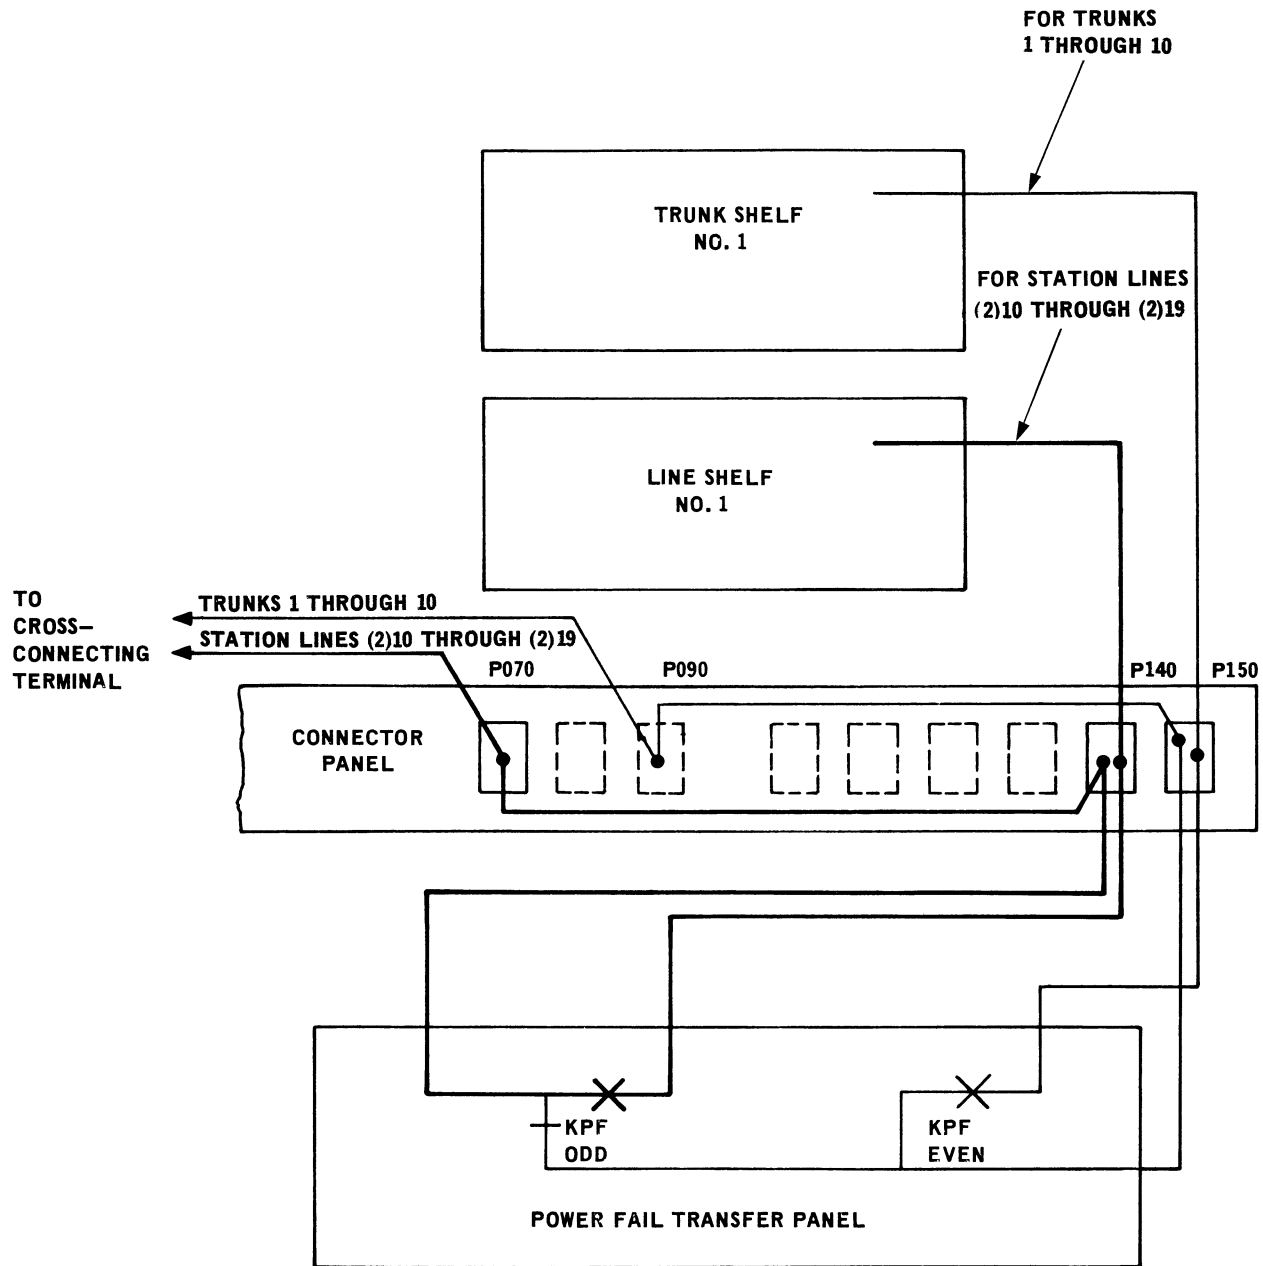
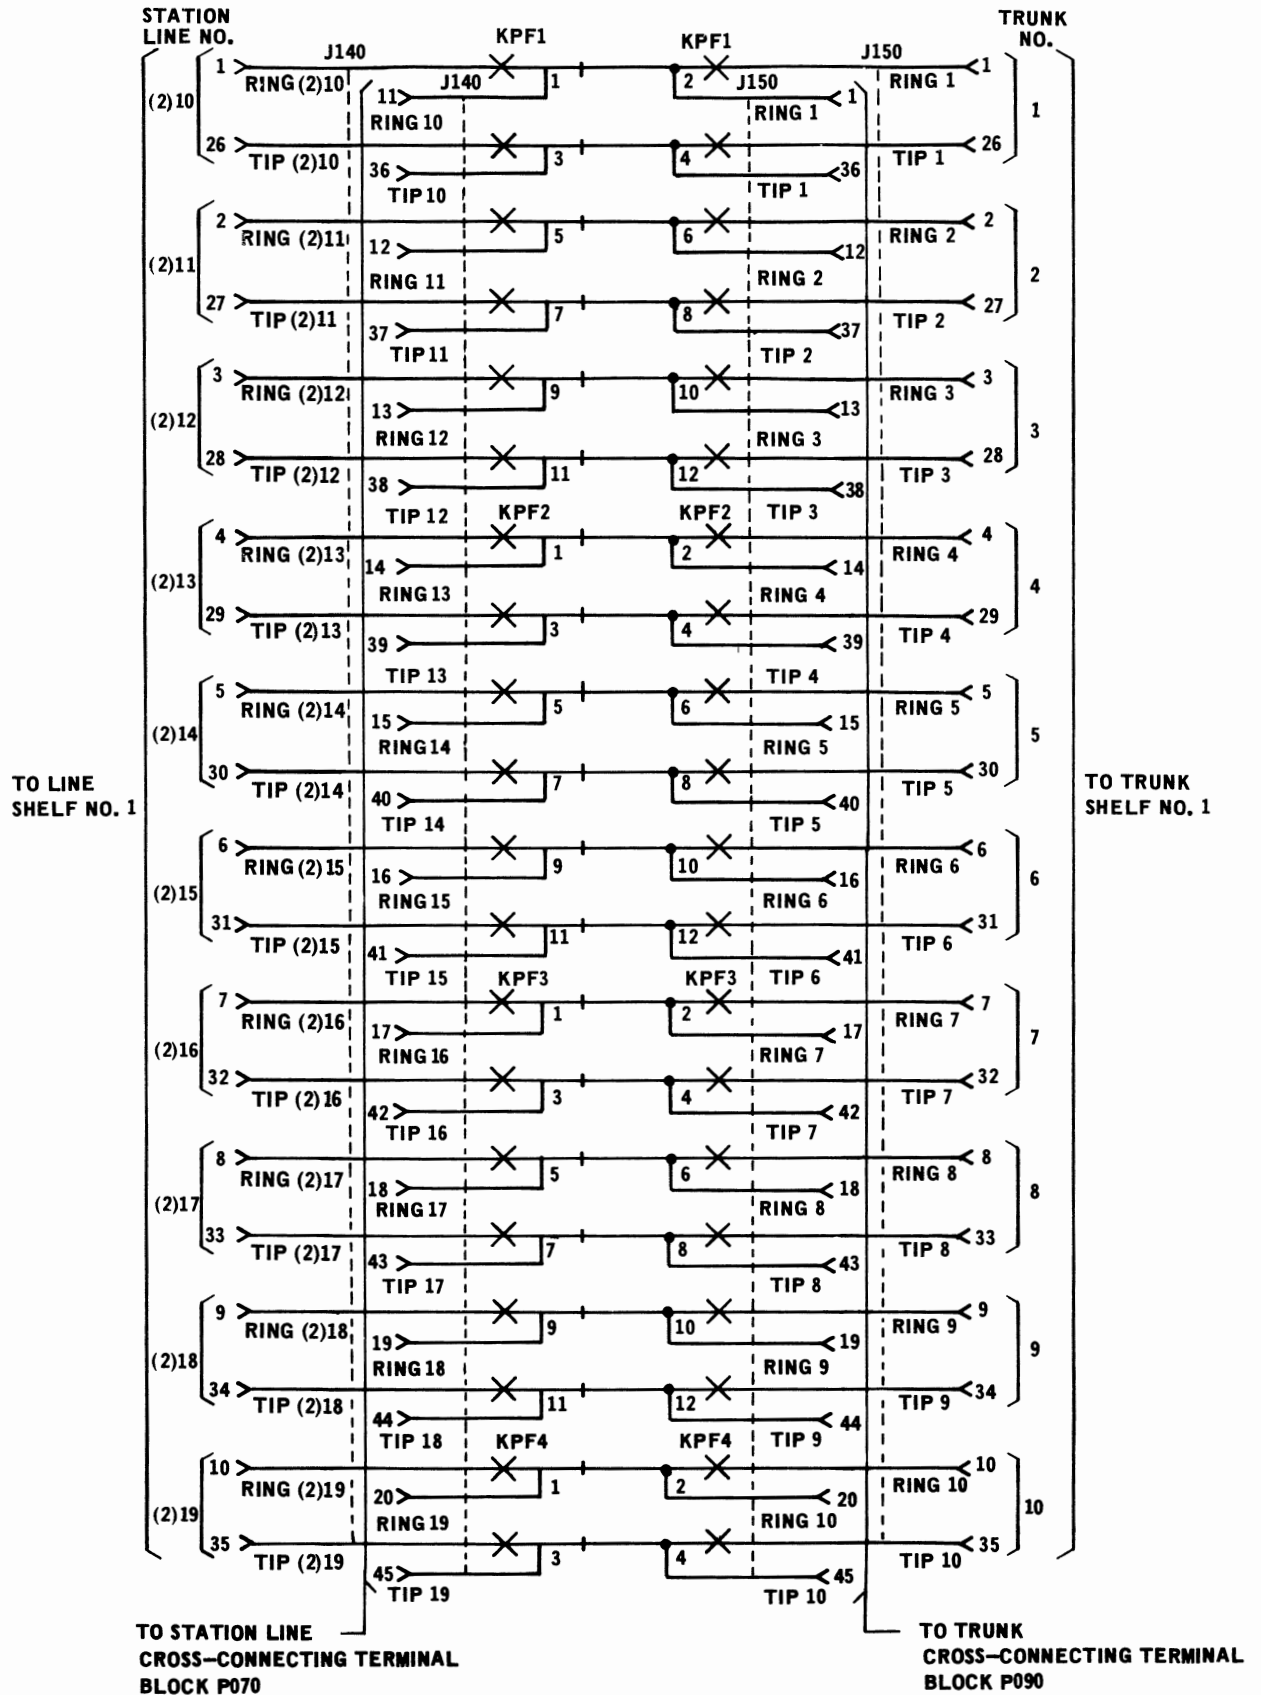

Fig. 1 - Schematic Drawing of Power Fail Transfer Trunk Circuits
Fig. 2 - Identification of Leads and Pins on PFT Panel
2.01 Trunks 11 through 30 are connected directly to the trunk shelves from the connector panel. The ten Power Fail Transfer (PFT) trunks 1 through 10 are connected to trunk shelf no. 1 via the PFT relays in the base of the cabinet. A schematic drawing of the PFT trunk circuits is given in Fig. 1 and the identification of leads and pins on the PFT panel is given in Fig. 2.